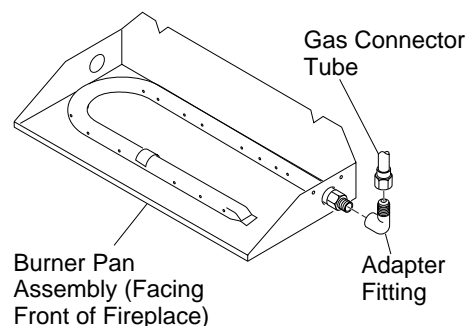

Figure 10 - Connecting Gas to Appliance
3. Install adapter fitting onto the burner inlet fitting using thread sealant on male threads of burner inlet fitting (see Figure 10). Adjust to most convenient position.